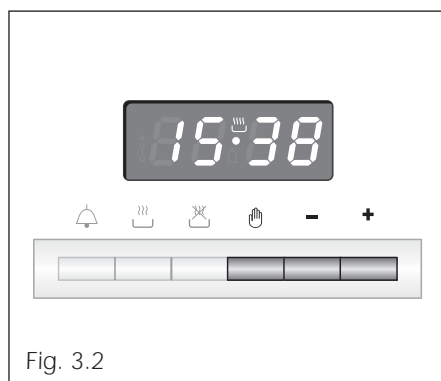

Fig. 3.2
**ELECTRONIC CLOCK** (fig. 3.2)
To set the hour it is necessary to push the  button and then the  or  button until you have set the exact hour (fig. 3.2).